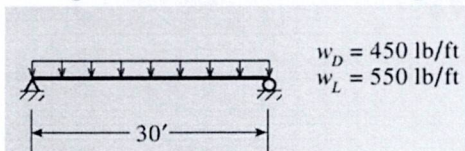

Figure: 5.1
5. (a) A section of W 16x31 of A992 steel supports a service load of 450 lb/ft and a live load of 550 lb/ft shown in Figure 5.1. Comment on whether the beam is adequate for this arrangement. Section's self-weight= 31 lb/ft